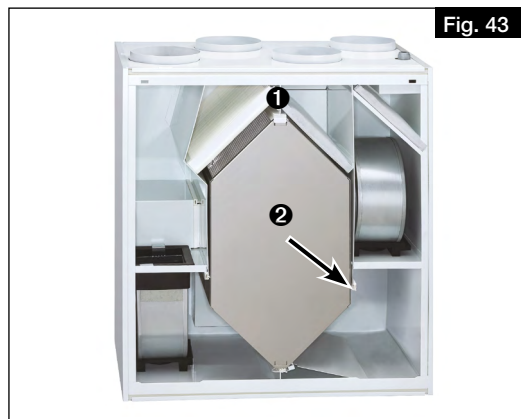

Fig. 43
3. Remove terminal strip ❶ at top of heat exchanger (see Fig. 43).
4. Carefully remove the heat exchanger ❷ from the unit (see Fig. 43).